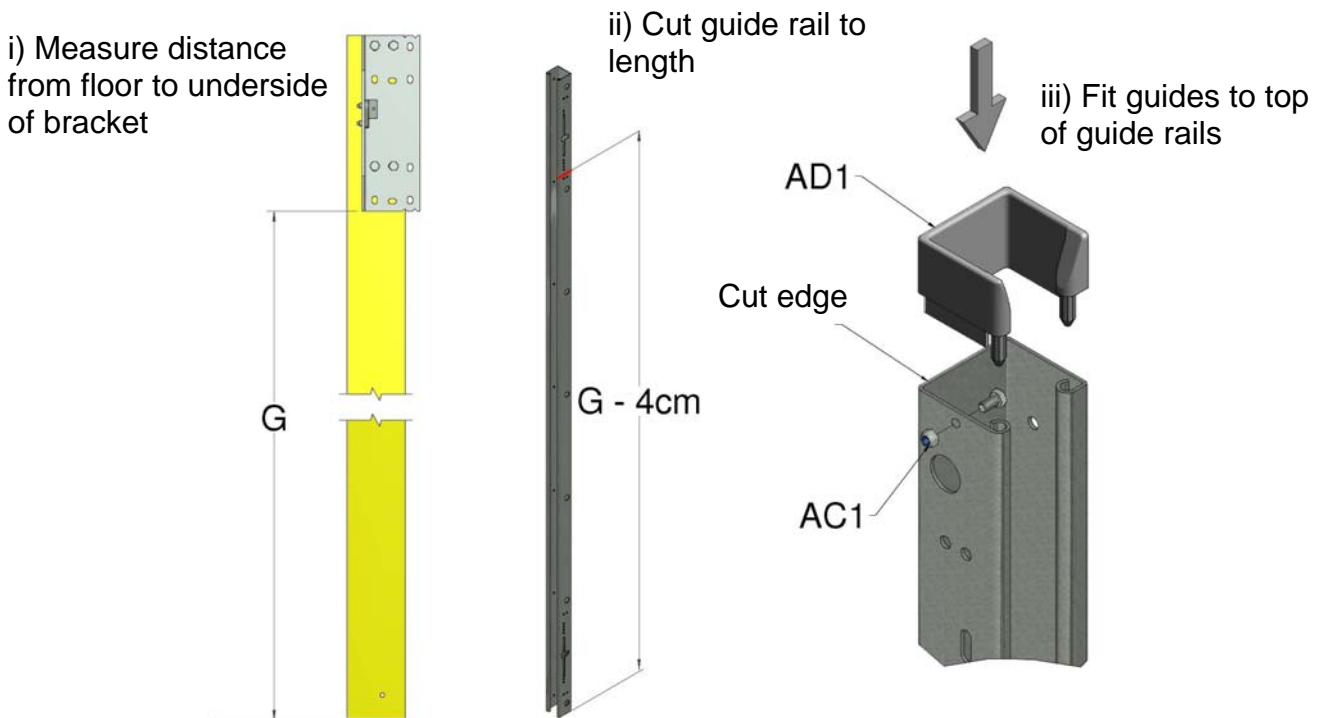

Figure 10, Cutting Lengths of Guide Rails
9. Equally cut the two guide rails (I1) to fill the gap between the underside of the top brackets and the ground allowing 4 cm for the guide (AD1). Make sure that the un-cut end with the slot and holes is at the bottom ready to accept locking catches. Fit the pair of guides into the top of the guide rails (cut end) and secure with the M6x12 bolt and nut (AC1) in the front face, Figure 10.